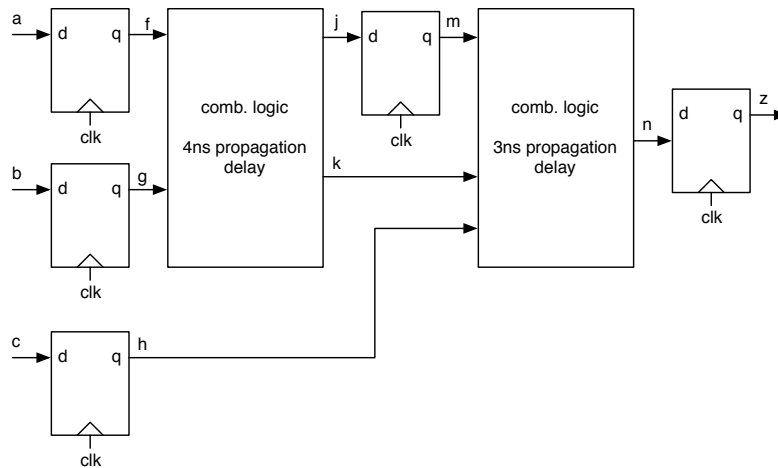

Figure 1. (Problem 1)
1. Consider the system shown in Figure 1. Assume each flip-flop has a 2 ns propagation delay, a 3 ns setup time, and a 1 ns hold time. What is the shortest possible clock period? What is the fastest possible clock frequency? Explain your answers clearly.